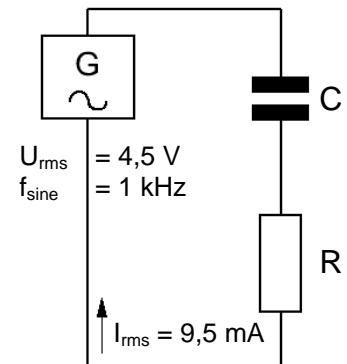

Fig. 15.2.4: RC series circuit
- The relationships in an RC series circuit Fig. 15.2.4 are to be measured. The phase angle φ between generator voltage and the voltage across the resistor (U_R), is 46° .
- The results from calculations will now be checked in a practical exercise. Assemble the RC series circuit in Fig. 15.2.4 on the Electronic Circuits Board. Use the following components: $R = 330 \Omega$, $C = 0,47 \mu\text{F}$. Set the function generator to: $U_{\text{rms}} = 4,5 \text{ V}$ ($f_{\text{sine}} = 1 \text{ kHz}$).